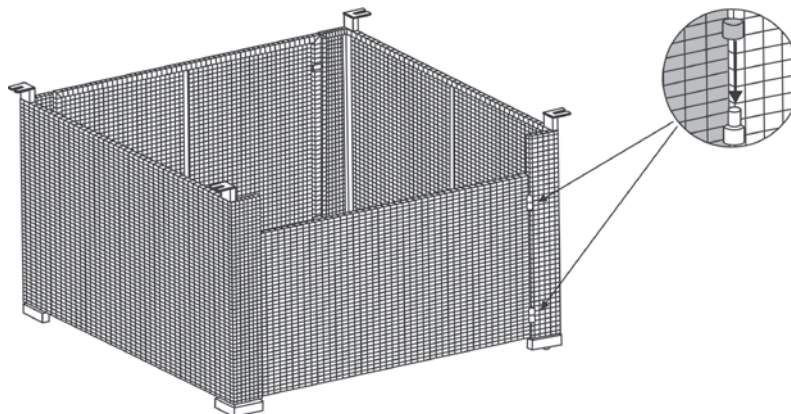

Figure 4
4. Identify the door panel and right side panel. Attach the door panel to the right side panel as shown in Figure 4.